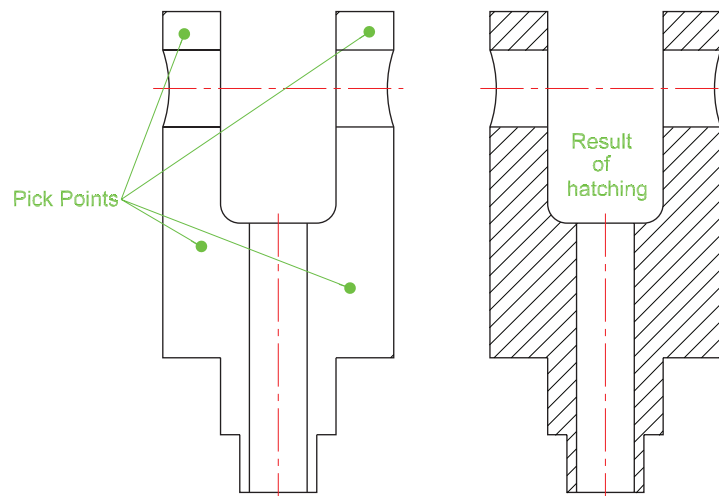

Fig. 7.14 The result of hatching
4. In the front view *pick* points as shown in the left-hand drawing of Fig. 7.14. The dialog reappears. *Click* the **Preview** button of the dialog and in the sectional view which reappears, check whether the hatching is satisfactory. In this example it may well be that the **Scale** figure in the dialog needs to be *entered* as **2** in place of the default **1**. Press the **Esc** key of the keyboard and the dialog returns. Change the figure and **Preview** again. If satisfied *right-click*.